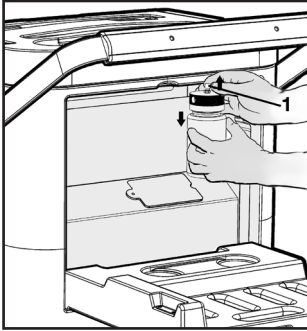

Fig. 8: Removing used oil bottle
- ❗ To remove the used oil bottle, pull the connection (Fig. 8) upwards slightly and detach the bottle downwards.